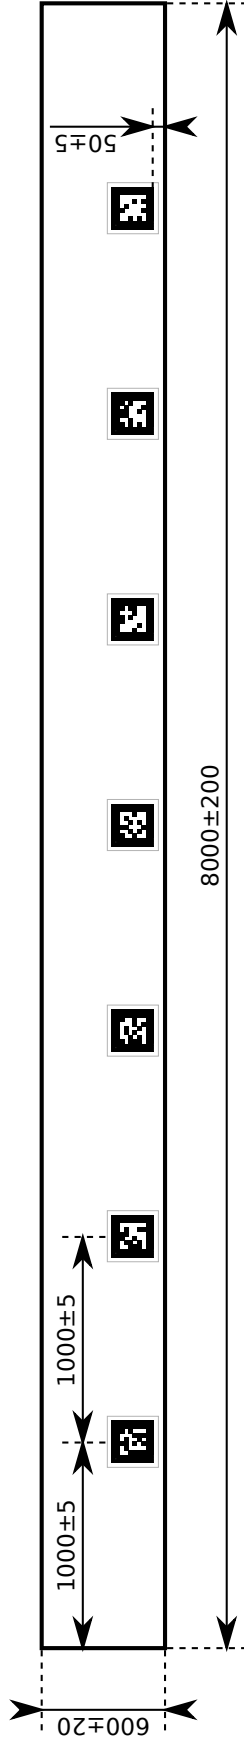
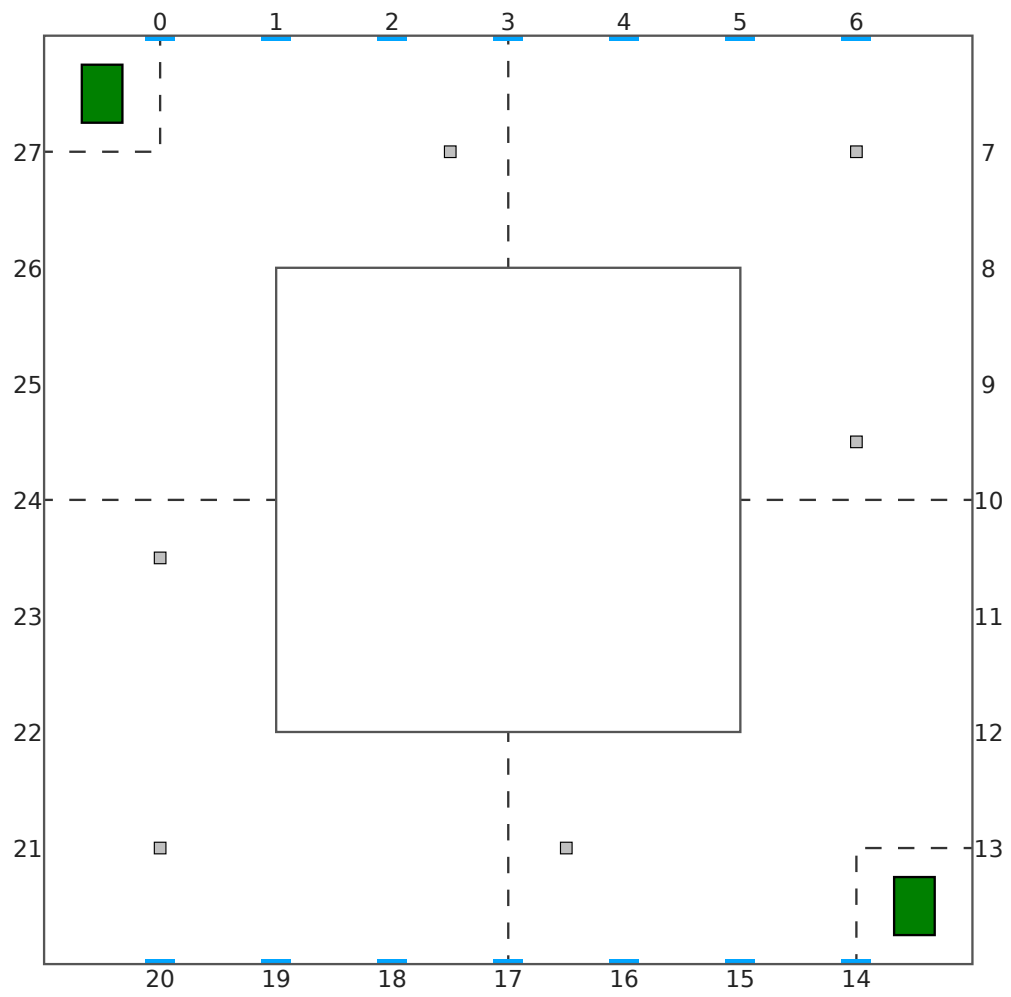

Figure 1: Layout of markers along each arena wall.
Figure 2: Layout zones and cans in the arena.
3. The layout of the arena is given in Figure 2.
5. Each wall of the arena features seven 250 mm fiducial markers. The positions of these markers is given in Figure 1. The marker numbering is given in Figure 2.
2. The initial layout of tokens in the arena is given in Figure 2.